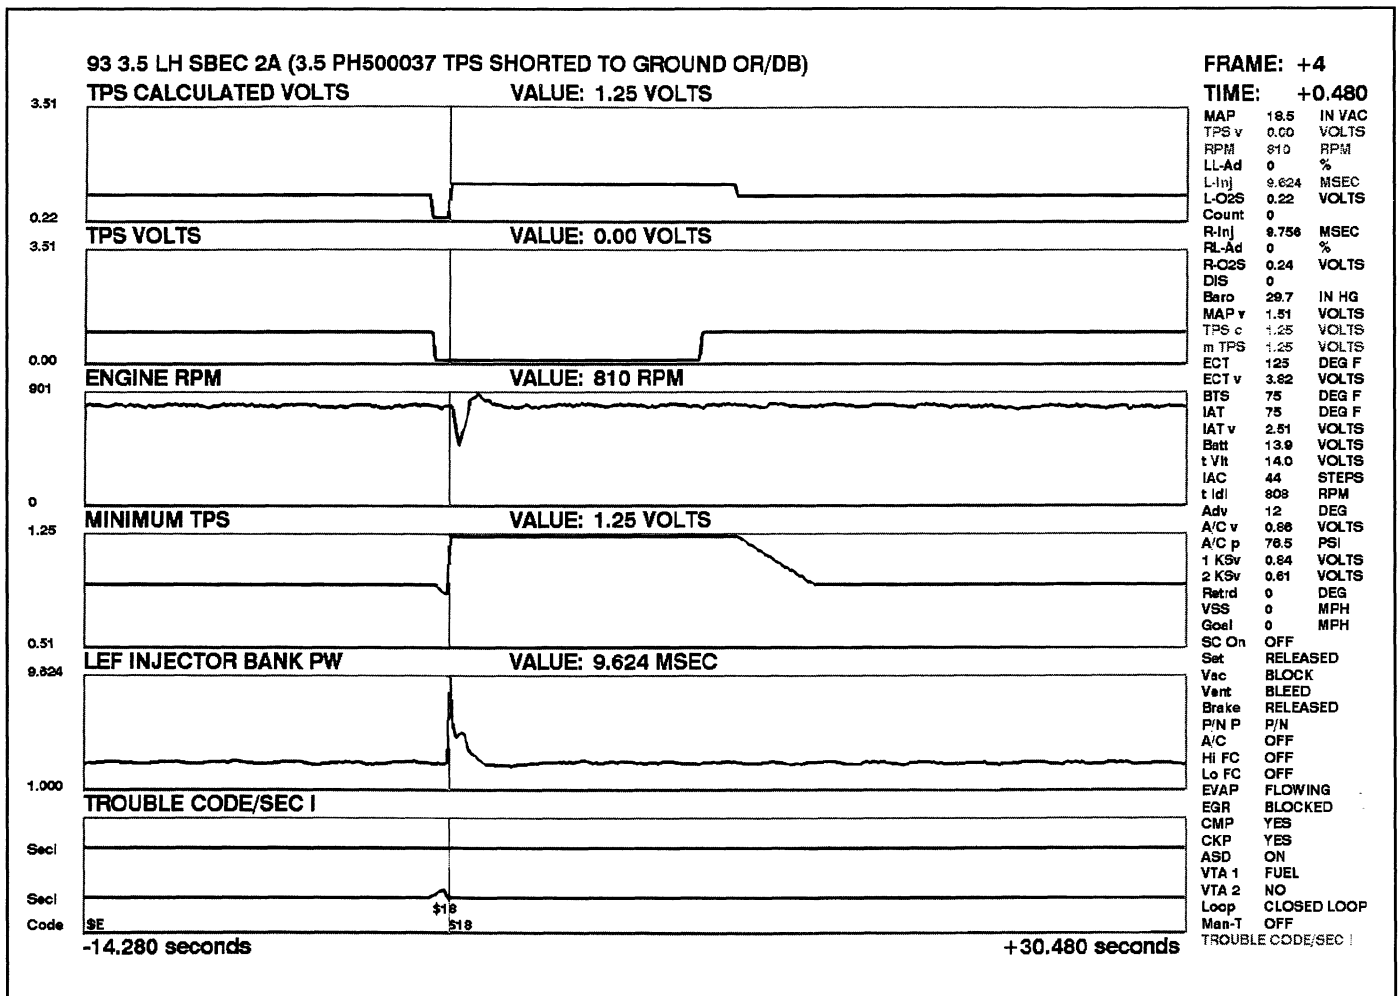

Fig. 4
- Grounded circuit (Fig. 4) - wiring worn through or cut (shorted to ground)